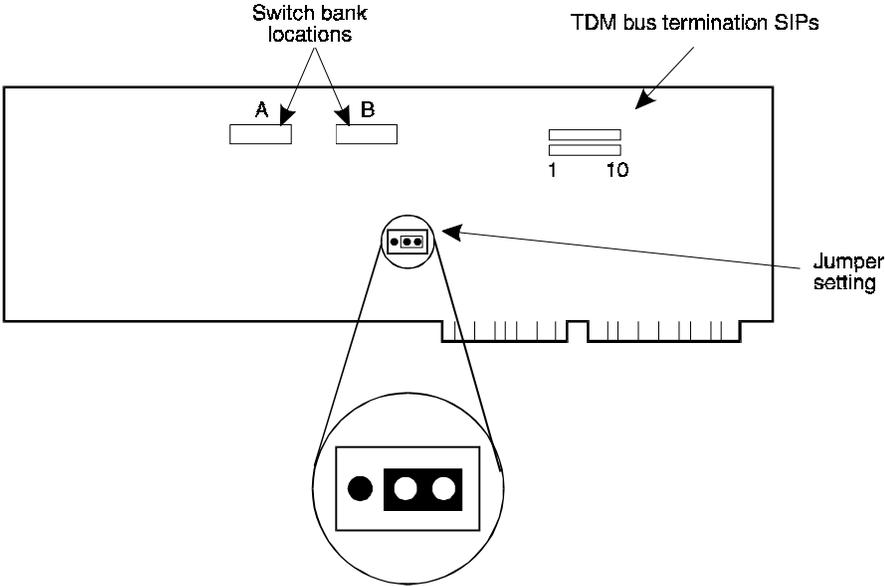
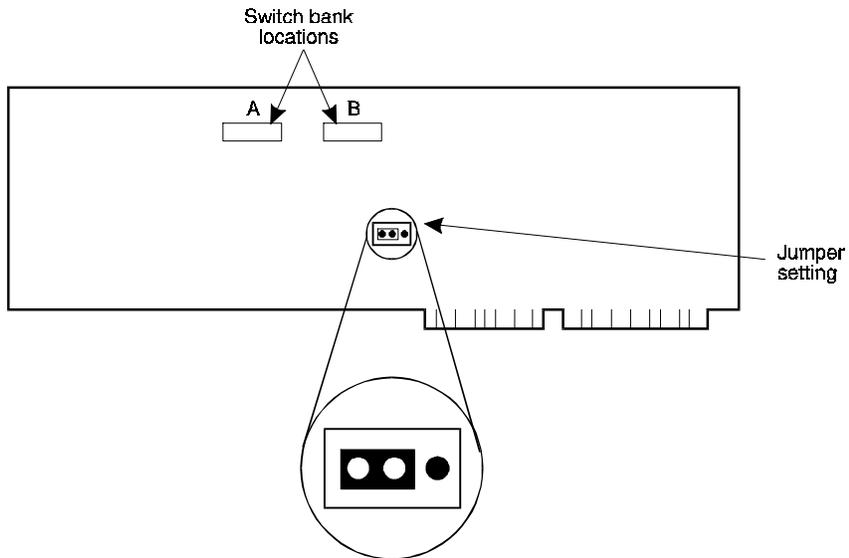

Figure 7-2. Location of Switch Banks A and B and Jumpers on the IVP6 (AYC5) T/R Circuit Card
Figure 7-3. Location of Switch Banks A and B and Jumpers on the IVP4 (AYC6) T/R Circuit Card
- IVP6 (AYC5) — see Figure 7-2
- IVP4 (AYC6) — see Figure 7-3
Jumpers on the IVP6 (AYC5) and IVP4 (AYC6) circuit cards are preset at the factory. However, before you install these cards, ensure that those settings are as shown in Figure 7-2 and Figure 7-3.